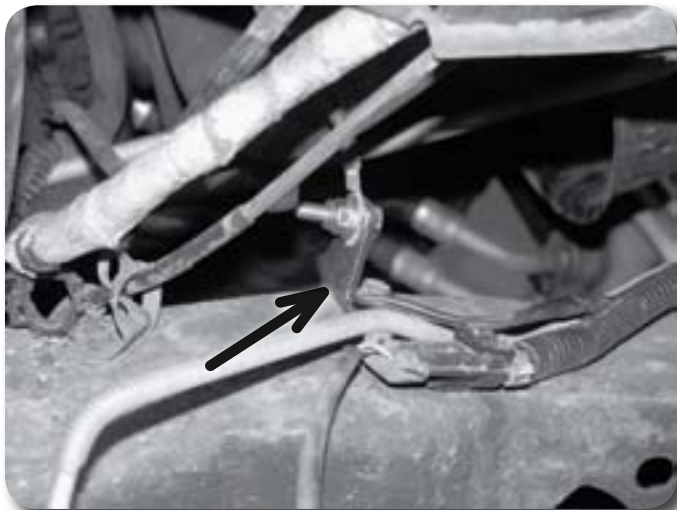

Figure 35
57. Install the short end of the provided L-shaped ground strap relocation to the passenger's side frame rail with the factory bolt **Figure 35**. Attach the ground strap(s) to the bracket with a $\frac{1}{4}$ " x $\frac{3}{4}$ " bolt, nut and two $\frac{1}{4}$ " SAE washers.